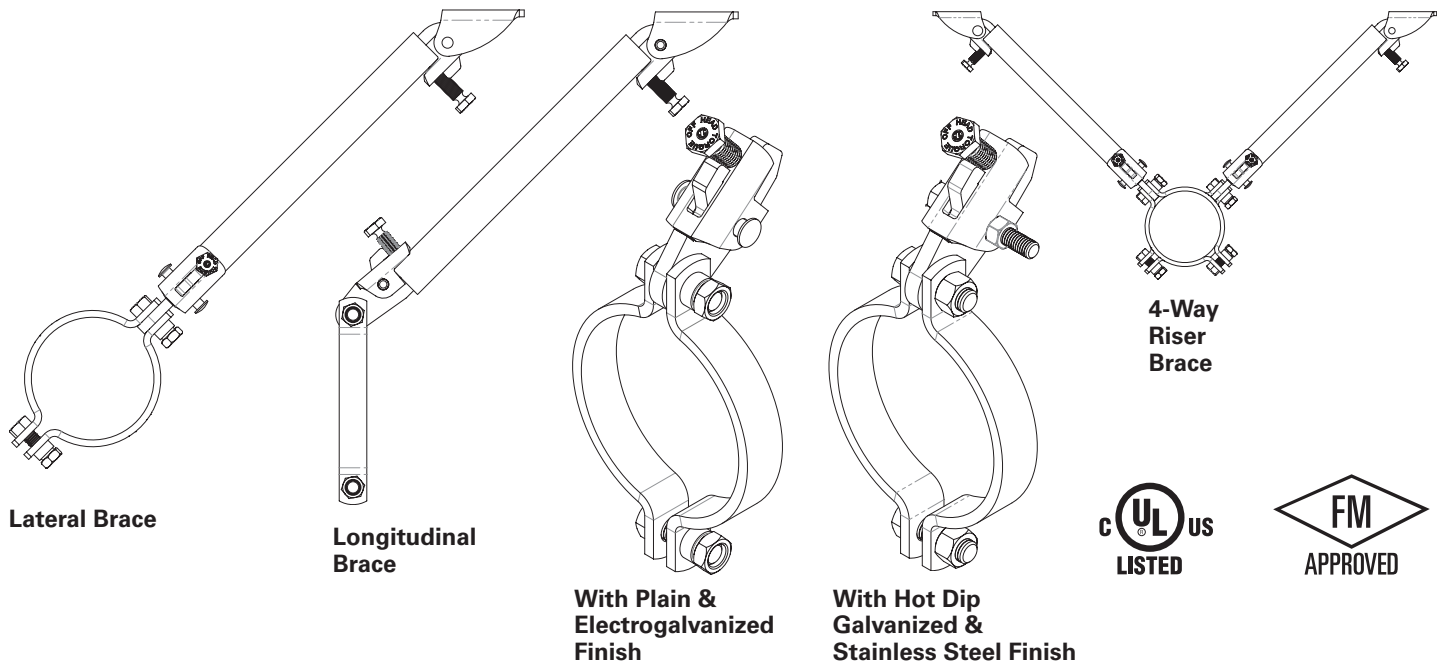

Fig. 4L TOLCO sway brace attachment
Function: For bracing pipe against sway and seismic disturbances. Fig. 4L is the “braced pipe” attachment component of a longitudinal or lateral sway brace assembly. It is intended to be combined with a 1”-2” NPS “bracing pipe” and a TOLCO structural attachment component to form a complete bracing assembly. Sway brace assemblies are intended to be installed in accordance with NFPA 13 and the manufacturer’s installation instructions.
** Stainless steel (Fig. 4LS) is only offered for 4" and 6" size pipe 2½" - 8" 2000 lbs.
** Stainless steel (Fig. 4LS) is only offered for 4" and 6" size pipe
*** Note that the Fig. 4L-4" and 5" are only UL listed for use with 1" thru 1½" brace pipes.
To install: Place the Fig. 4L over the pipe to be braced and tighten down the break-off nuts (note: apply between 50-60 lb. ft. of torque). Tighten the jaw component side nut first until the hex head portion breaks off to verify correct installation torque and then repeat for other side. Next, place the Fig. 4L onto the “bracing pipe” so that there is no more than an ⅛" gap between the end of the bracing pipe and the back of the jaw. Tighten break-off head bolt until the hex head breaks off to verify correct installation torque (note: apply between 36-40 lb. ft. of torque on PLN or EG or 45-50 lb. ft. of torque on HDG or SS Fig. 4L). Pivot jaw for correct angle and attach to structure using TOLCO brand transitional attachment and structural attachment.